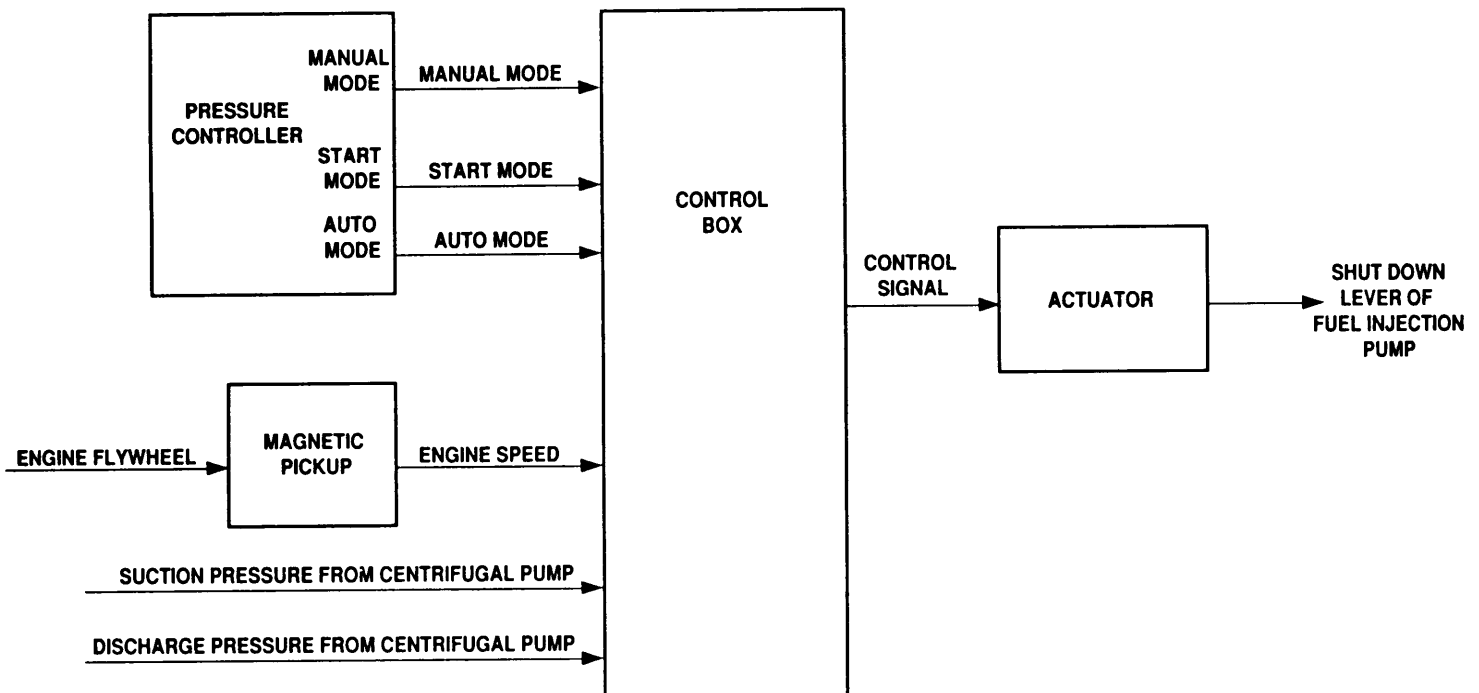

Figure 1-10. Regulator Assembly Functional Block Diagram.
**1.14.2.7 Regulator Assembly.** The regulator assembly (figure 1-10) provides feedback from the output of the pump. This feedback controls the speed of the engine by transmitting electrical signals to a magnetic pick-up and control box. It consists of a pressure controller, control box, magnetic pickup and actuator.